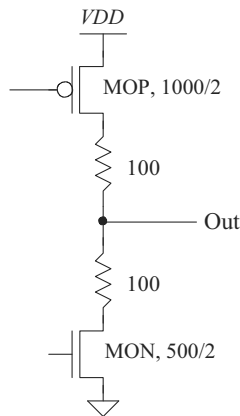

Figure 24.67 Adding resistors to the output of the op-amp in Fig. 24.29 for short circuit protection. See Problem 24.12.
- 24.12** To limit the current flowing in MOP or MON in the op-amp of Fig. 24.29 (to protect the op-amp from destruction if its output is shorted to ground, for example), we may add $100\ \Omega$ resistors, as seen in Fig. 24.67. What is the maximum amount of current this modified op-amp can source/sink? How is the closed-loop output resistance of the op-amp affected. (Hint: see Eq. (24.70).) Simulate the operation of the op-amp using the topology seen in Fig. 24.31. Is there any noticeable difference between the simulation output in Fig. 24.31 and the output with the $100\ \Omega$ resistors present?